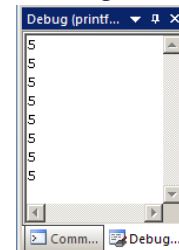

Figure 25: ITM writes of "5" with LF and CR
9. In the Debug (printf) Viewer you will see the value “5” appear every few seconds as shown in Figure 25. You could add more ASCII characters to format your own messages.